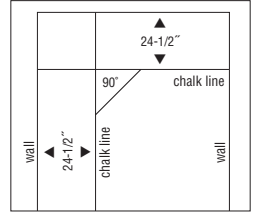

Figure 6
- If the room dimensions allow, in at least two places 18" (46 cm) from the corner, measure out and establish a chalk line parallel to and 24-1/2" (62 cm) away from the starting wall opposite the entrance doorway. The 1/2" (13 mm) is for expansion space (Figure 6).
- Snap a second chalk line 90° to the first chalk line, 24-1/2" (62 cm) away from the right angle wall (Figure 6). The 1/2" (13 mm) is for expansion space. Check accuracy with a carpenter square.